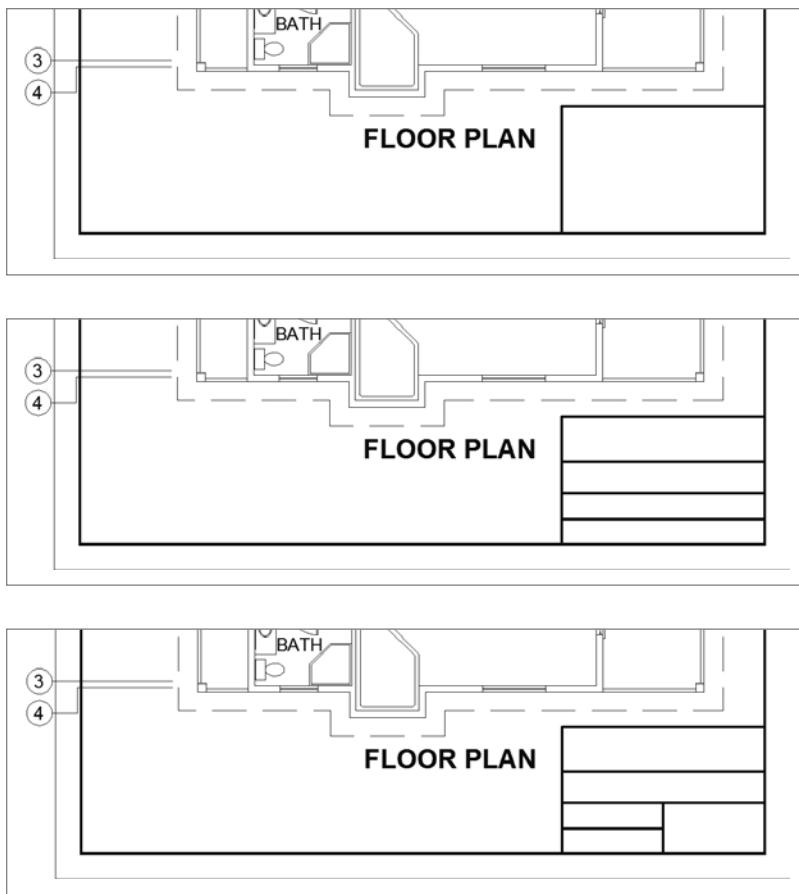

FIGURE 8.43 Building the title block: the left edge (top), the horizontal lines (middle), and the last line trimmed (bottom)
The left edge of the title block is drawn (see the top of Figure 8.43). Press ↵ to end the PLINE command.
10. Offset the horizontal pline down 3'-6" (1065 mm), offset this new line down 2'-6" (762 mm), and then offset this new line down 2' (610 mm). (See the middle of Figure 8.43.)
12. Trim the right side of the line just above the bottom of the border, back to the line you just drew (see the bottom of Figure 8.43).